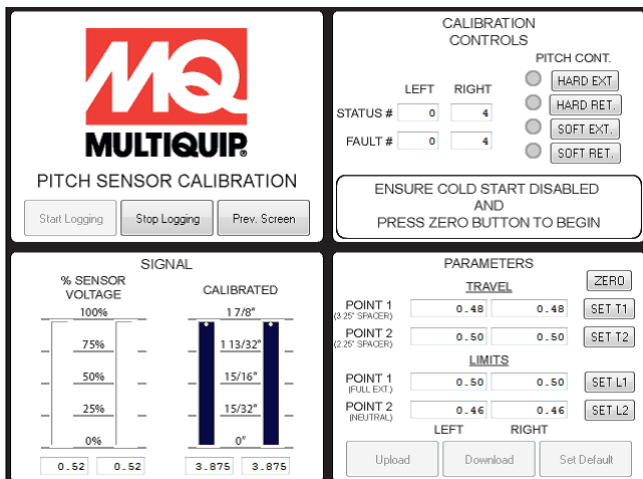

Figure 48. Start Pitch Sensor Calibration
4. Press "zero" button (Figure 48) to begin calibration.
- e. Press "Set T1" button (Figure 48).